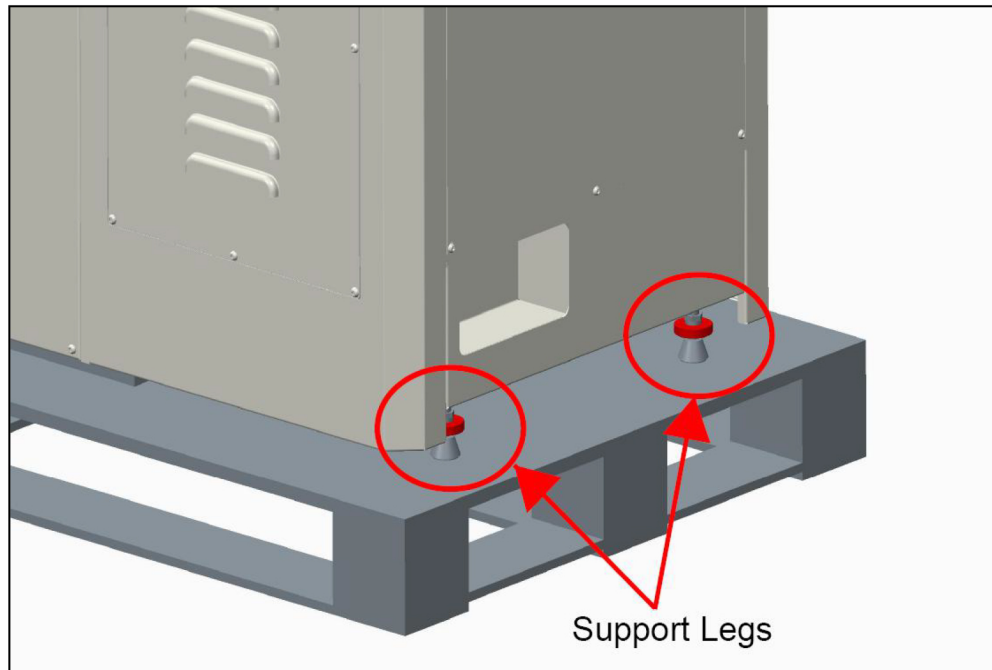

Fig.9
Step 2: As **Fig.9** indicated, at the bottom, you can find two support legs, turn the red handles to raise legs up about 25mm (1 inch).
6. When the equipment is in place, turn the red handles (see Fig.9) to make the support legs touch the ground.